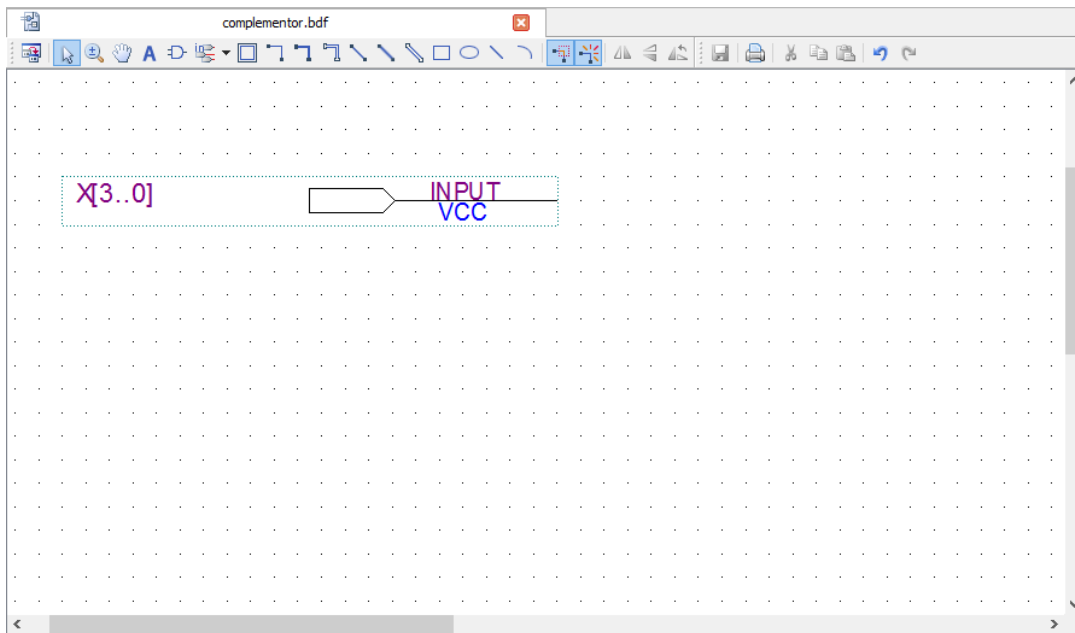

Figure 4.11 Input pin for input bus
25. Name this input as ' **$X[3..0]$** ' as it's shown on Figure 4.11. You can easily do this by right-clicking the input object, selecting 'properties', and changing the name.